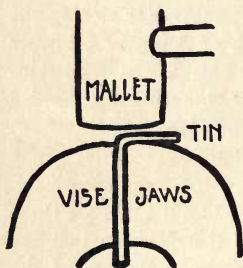

FIG. 54.
**Using the Vise for Short Folding.**—The vise may be used to fold short pieces of tin very accurately. The folding line is first marked on the tin; the tin is then placed and held in the vise jaws so that the line is parallel with and exactly at the top of the jaws. The mallet is then used to hammer the tin over to the required angle, see Fig. 54. A very sharp accurate fold should result.